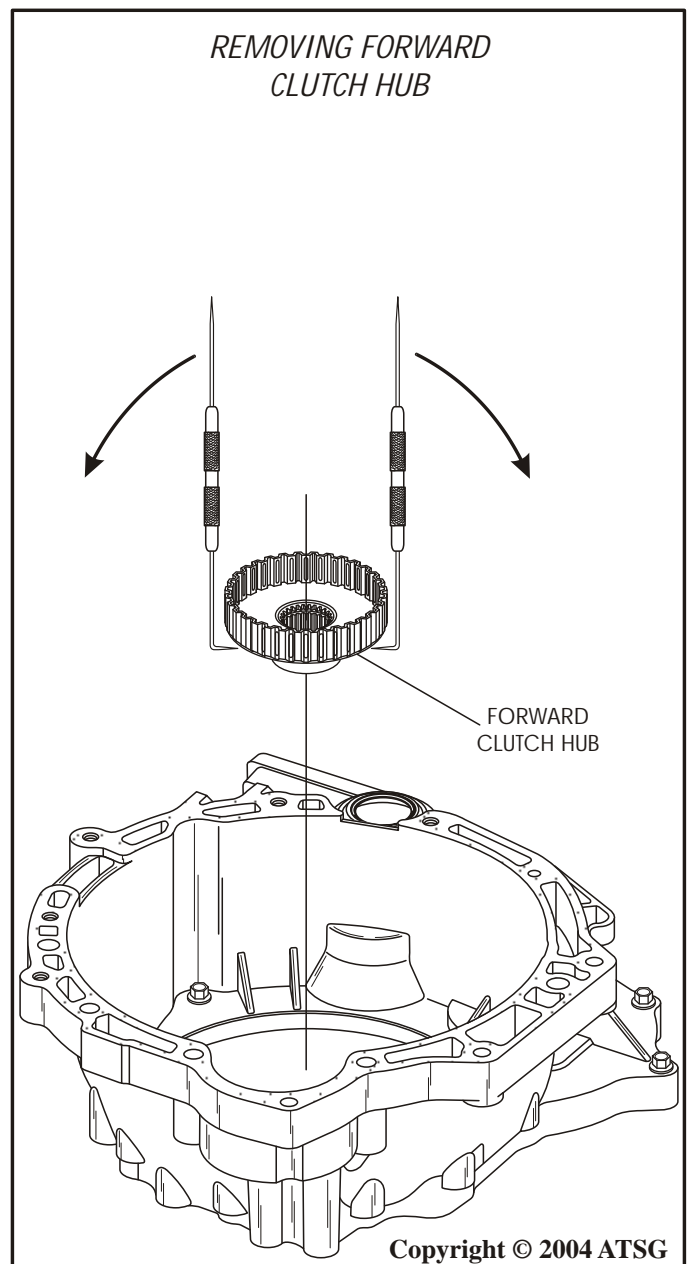

Figure 23
6. Remove the forward clutch hub from transaxle using two scribes as levers to dis-lodge the hub from the cir-clip, as shown in Figure 23.